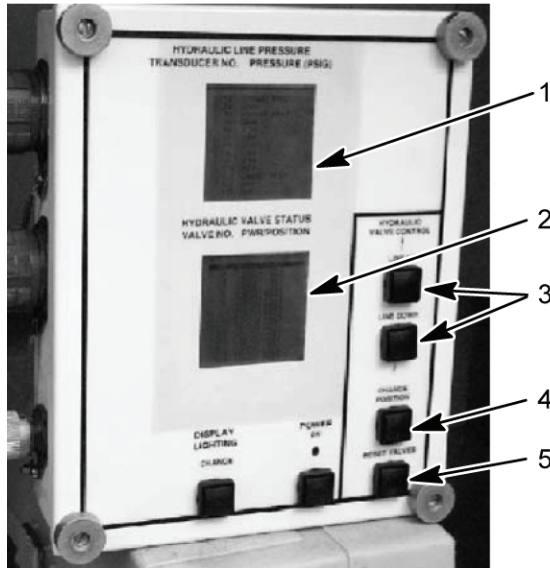
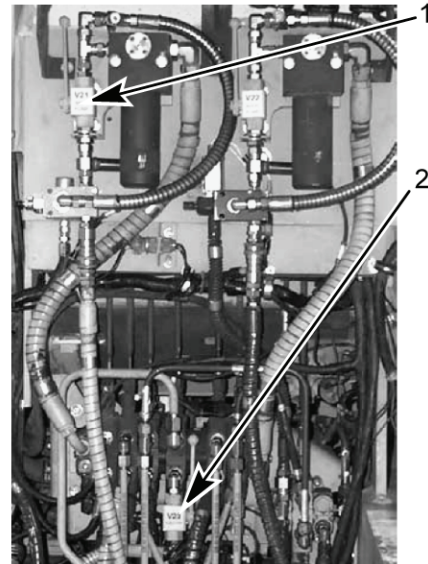

Figure 5. HDC Control Box
Figure 6. DCV Bank
- Reset all HDC solenoid valves by selecting the RESET VALVES button (Figure 5, item 5) on the HDC control box.
- Ensure right main hydraulic pressure inhibit valve V21 (Figure 5, item 1) is fully opened.
- Disable ejector by manually closing the ejector inhibit ball valve V23 (Figure 6, item 2) on the DCV bank. Using LINE UP or LINE DOWN button (Figure 5, item 3), select V1 on the HDC display (Figure 5, item 2). Close V1 on the HDC display (Figure 5, item 2) by selecting the CHANGE POSITION button (Figure 5, item 4) on the HDC control box.